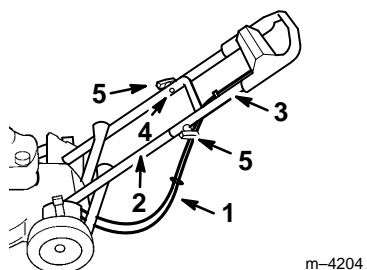

Figure 3
- Slide the upper handle section ends over the lower handle so that the sections nest together (Fig. 3)
- Ensure that the cables are routed below/behind the lower handle as illustrated in Figure 3.
- Secure the upper handle to the lower handle using two contoured handle bolts and two knobs (Fig. 3).